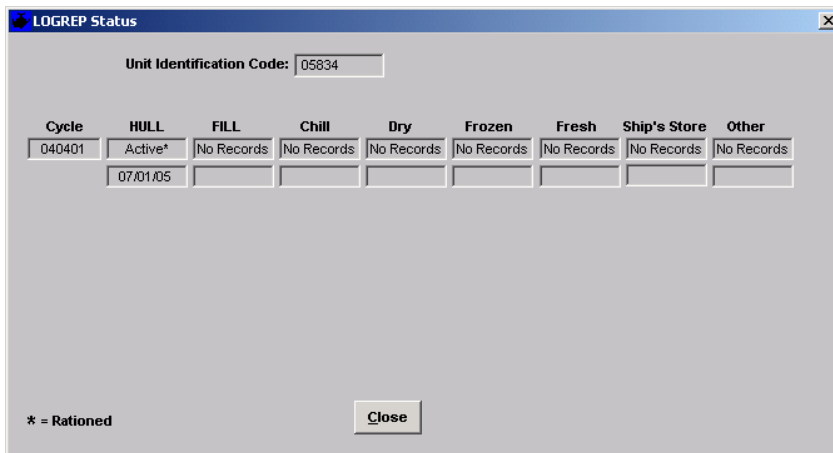

Figure 4.3
- 4.1.2.6 If operating under LOGREP, ~~click on~~ click on the **LOG** (**LOGREP Status**) button on the **Activity Control Information** window to view the **LOGREP Status** (*Figure 4.3*) window. This window presents the LOGREP status for the UIC sorted by Cycle Number and Material Indicator Code. Status will be one of the following: Staged, Hatched, Expended, Billed, Printed, Active, or Pending. An asterisk (\*) after the status indicates that rationing has also been performed against some of the records. The information displayed is for viewing only and may not be modified. Click **Close** to return to the **Activity Control Information** window.